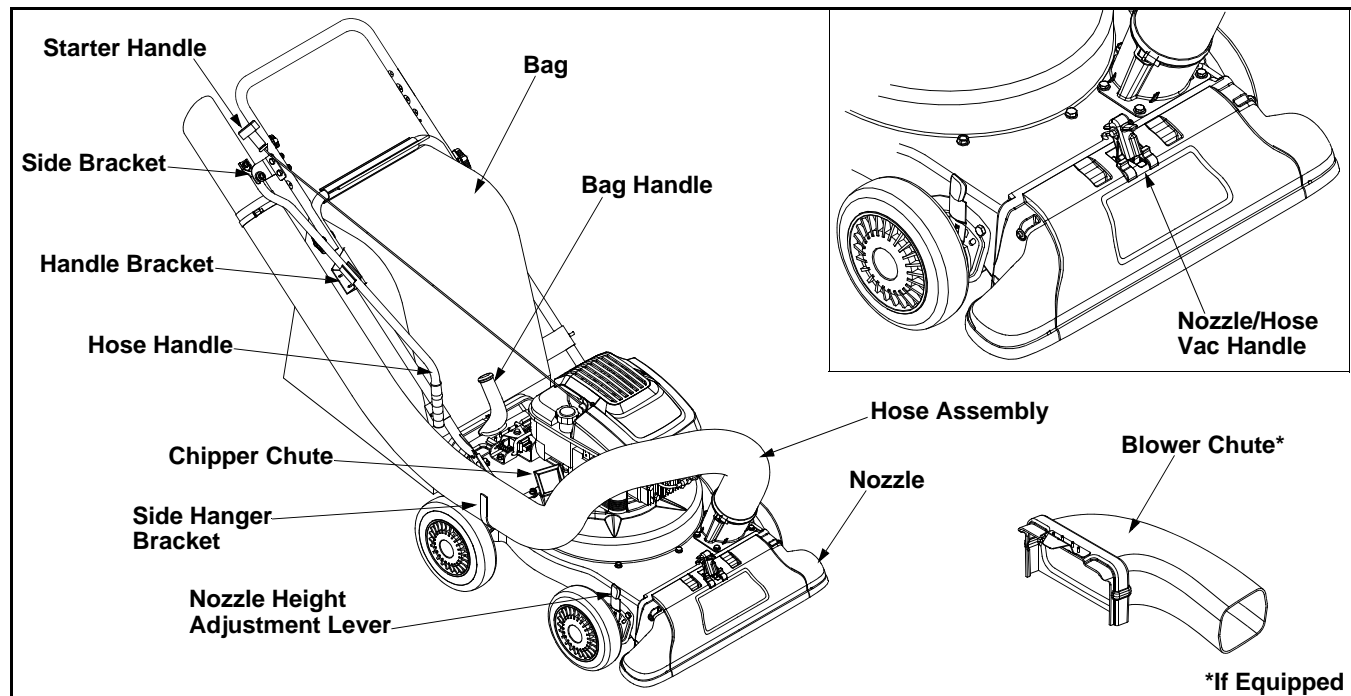

Figure 6
- Connect the hose handle near nozzle end of hose to the side bracket on the upper handle. Refer to Figure 6.
- Snap hose handle to the lower handle bracket to secure in place and lay hose tubing on side hanger bracket next to chipper chute. Refer to Figure 6.
Read this operator's manual and safety rules before operating your Yard Vacuum. Compare the illustrations in Figure 6 with your unit to familiarize yourself with the location of various controls and adjustments.
Wheels: Lubricate each wheel shoulder screw once a season with light oil. Refer to Figure 6.
Nozzle height adjustment levers: Lubricate the pivot points of the nozzle height adjustment levers once a season with light oil. Refer to Figure 6.
Locking Rod: Lubricate the locking rod with light oil to ease the application of attaching on or removing bag or blower chute (if equipped). Refer to Figure 6.
Nozzle/Hose Vac Handle: Lubricate the nozzle/hose vac handle on top of nozzle once a season with light oil. Refer to Figure 6.